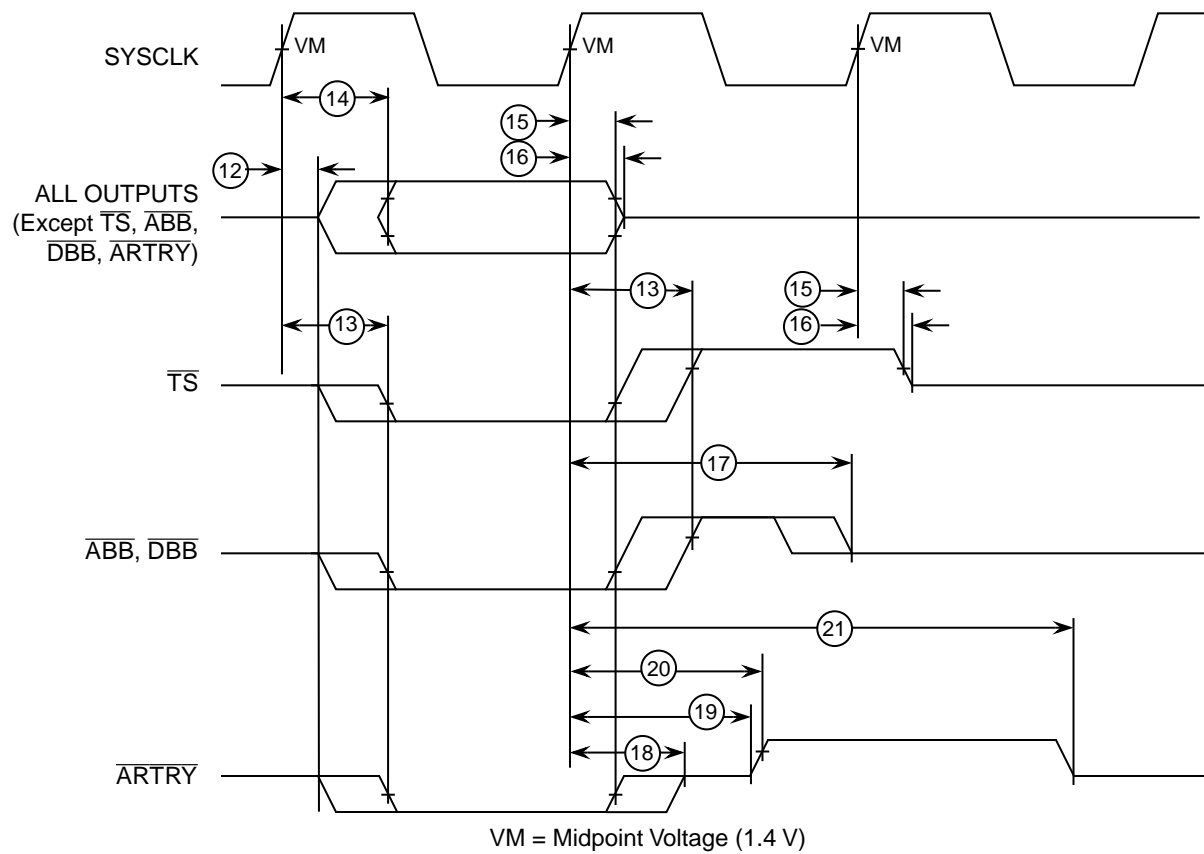

Figure 4. Output Timing Diagram
Table 8 provides the output AC timing specifications for the PID7v-603e as defined in Figure 4.
1. All output specifications are measured from the 1.4 V of the rising edge of SYSCLK to the TTL level (0.8 V or 2.0 V) of the signal in question. Both input and output timings are measured at the pin (see Figure 4).
Figure 4 provides the output timing diagram for the PID7v-603e.